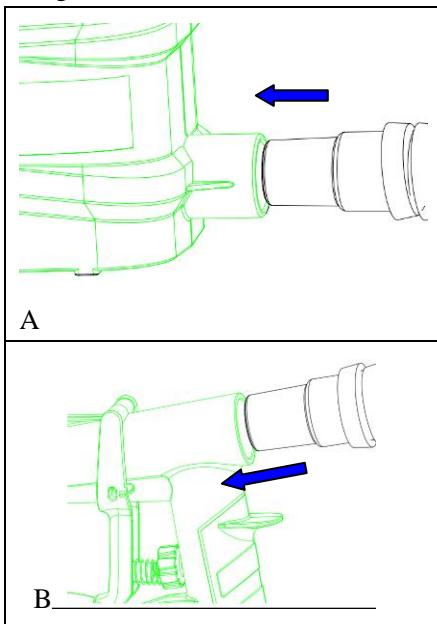

Fig 5
- Aligning suction tube (**Fig. 5**) The container contents are to be sprayed out almost completely. When spraying horizontal surfaces, turn suction tube forward (A). When spraying objects overhead, turn suction tube back (B).